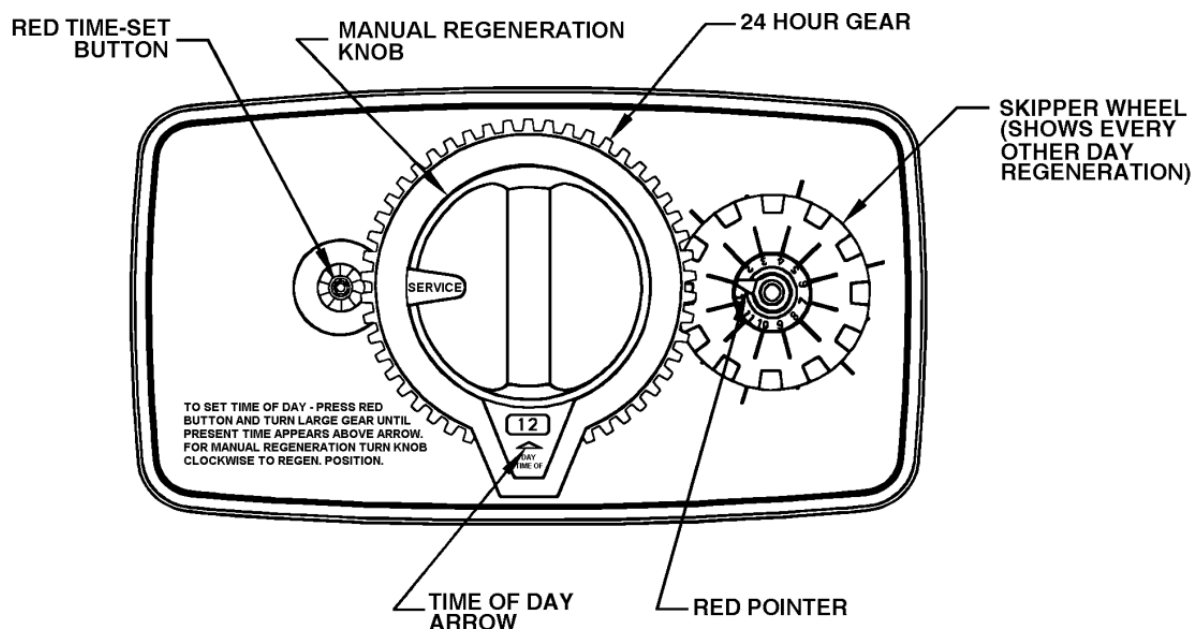
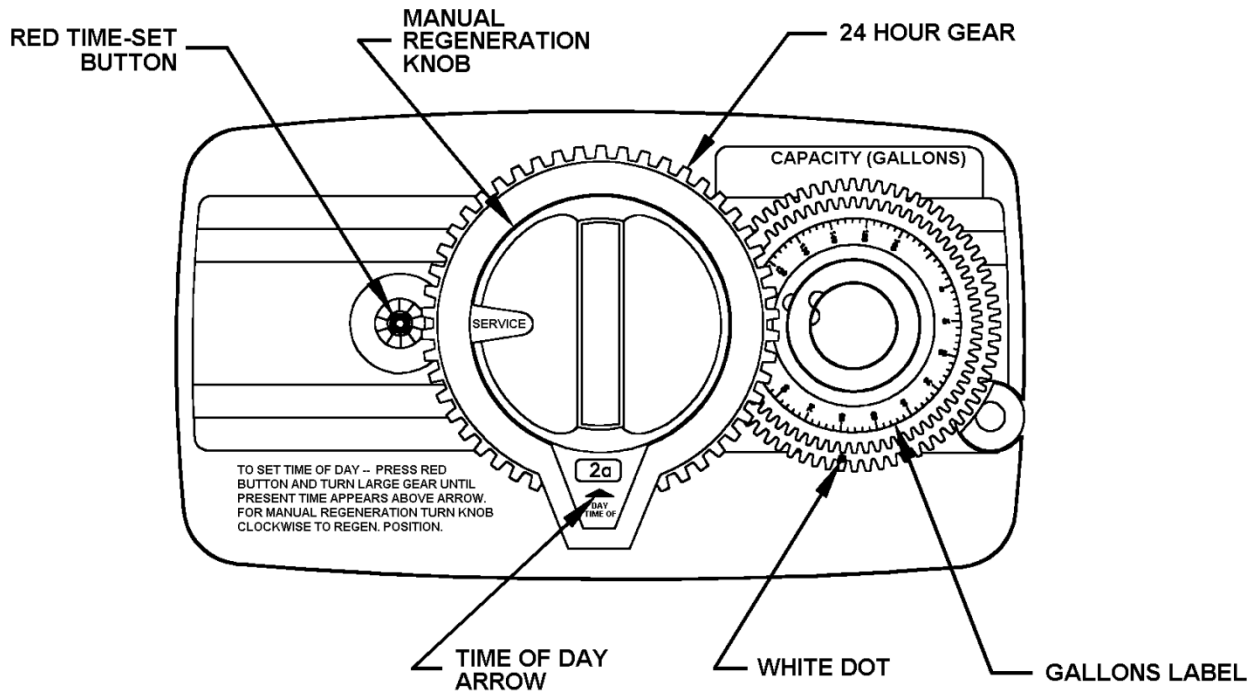
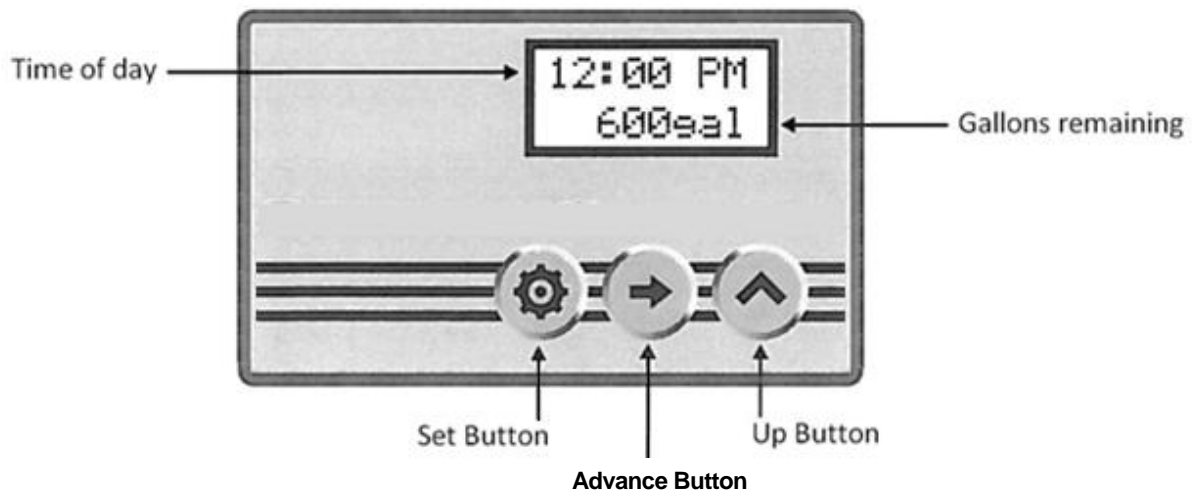

FIGURE 5: Front of Time Clock Timer Assembly
FIGURE 6: Front of Mechanical Meter Timer Assembly
FIGURE 7: Front of Electronic Meter Timer Assembly
- STEP 10:** For all models **except** NES Series rotate the Manual Regeneration knob (see Fig. 5, page 7 or Fig. 6, page 9) clockwise to the "Backwash" position.
For the NES Series plug transformer into an un-switched electrical outlet and attach the power cord into the control valve. Then press and hold down the center "ADVANCE" button for 5 seconds and release after "GO TO BW" appears on the screen (see Fig. 7, page 10). Wait until the valve reaches the backwash position before going to STEP 11.
- STEP 19:** Set the current time of day on the timer (note AM and PM) (refer to Fig. 5, Fig. 6, or Fig. 7, depending on the model number).
- STEP 20:** Set the regeneration frequency (refer to Fig. 5, Fig. 6, or Fig. 7, depending on the model number). The NMS and NES Series units determine frequency based on gallons used.